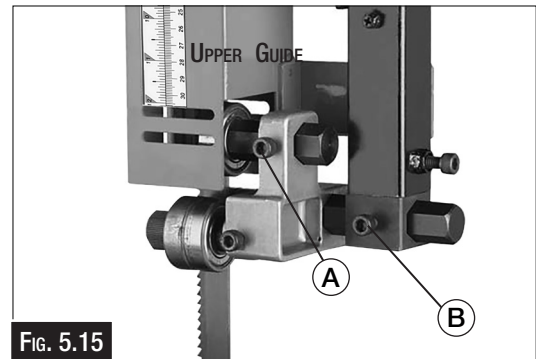

FIG. 5.15
4. Loosen the socket head cap screw on the support bearing adjustment shaft. (A in Fig.5.15)